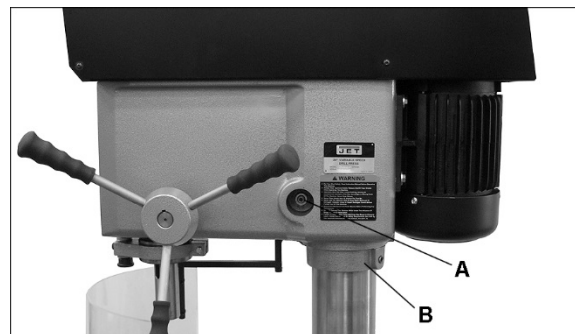
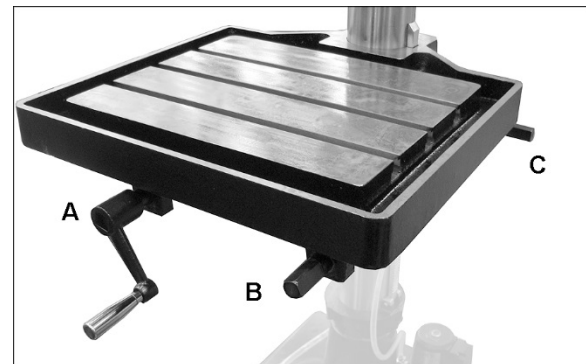

Figure 5-1
Figure 8-2: table adjustments
2. Loosen head locking nut (A, Figure 5-1) by turning counterclockwise with provided socket wrench.
4. Loosen table lock by placing handle on crankshaft (see A, Figure 8-2) and rotating handle counterclockwise.
5. Raise table by placing handle on crankshaft (B or C, Figure 8-2) and rotating clockwise. Place 2x4 vertically between table and head, as close to column as possible. CAUTION: Do not place 2x4 under lock collar (B, Figure 5-1).
7. Securely tighten head locking nut (A, Figure 5-1). This will secure head until lock collar can be positioned. The 2x4 can now be safely removed.
8. Loosen two set screws on lock collar (B), and slide lock collar until it is flush with head. Securely tighten both set screws.